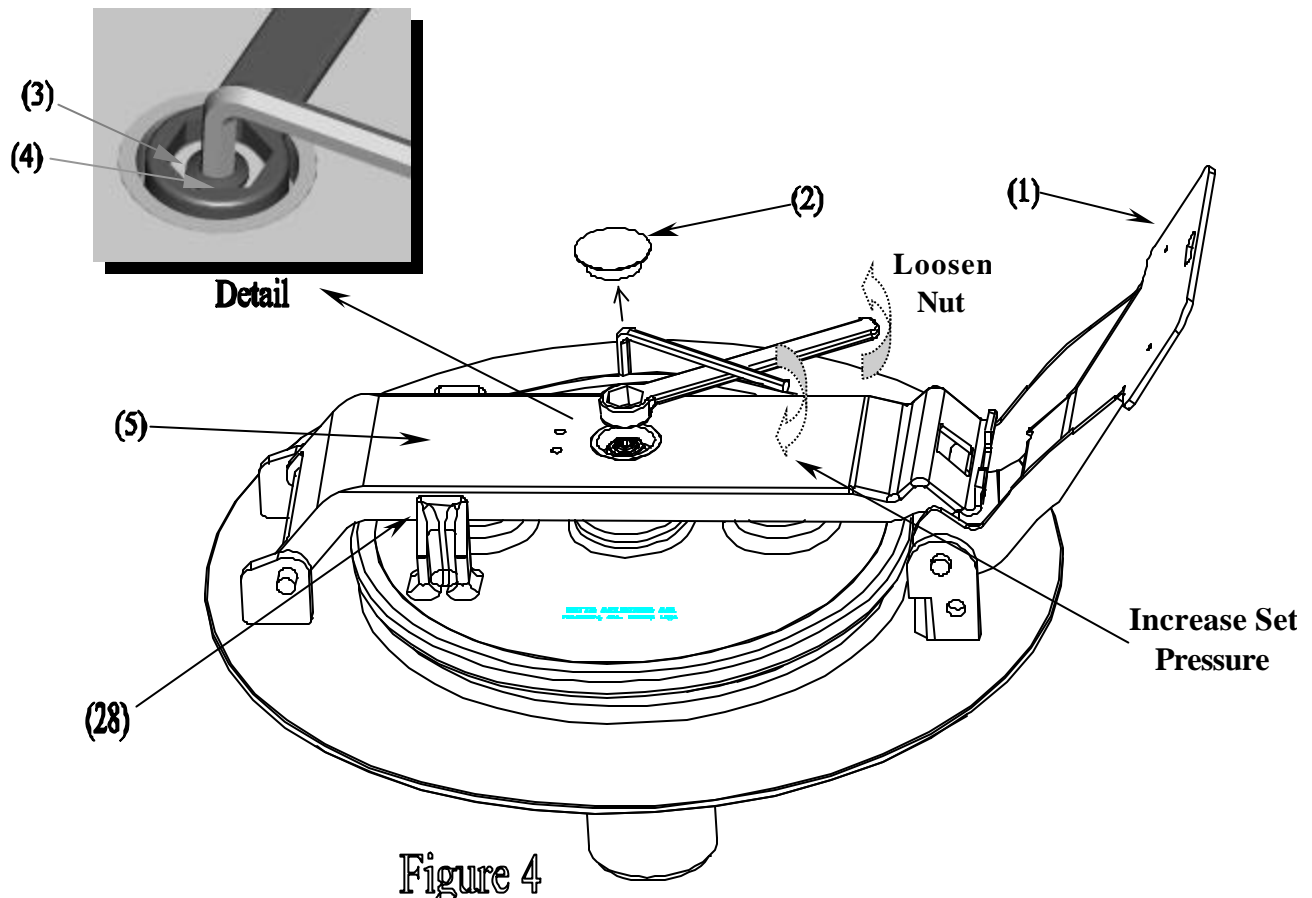

Figure 4
2. Open *Latch (1)* to expose yellow *Plastic Plug (2)* as shown in figure 4.
3. Remove yellow *Plastic Plug (2)*.
4. Place an 11/16 box end wrench over *Hex Nut (3)*.
5. Place a 7/32 allen wrench into the hex socket of the *Stem (4)*.
6. Hold the allen wrench stationary and rotate the box end wrench counterclockwise to loosen the *Hex Nut (3)* two full turns.
7. At this point, the PAF can be adjusted by rotating the *Stem (4)* with the allen wrench.
8. To increase the set pressure, turn the *Stem (4)* clockwise.